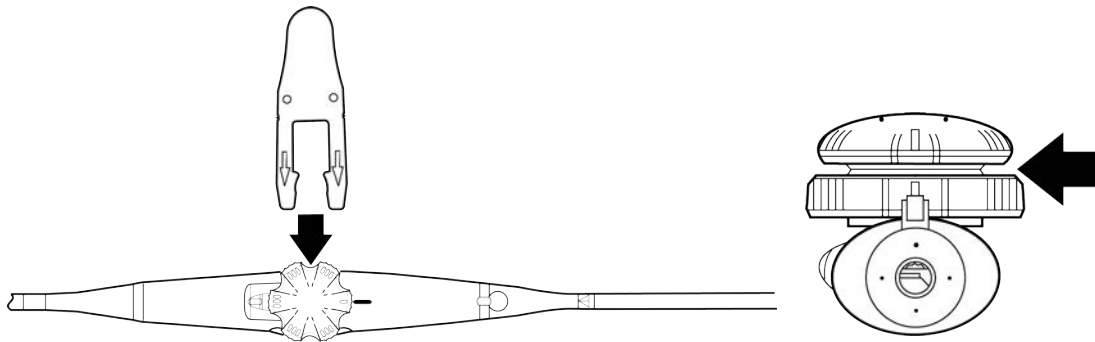

Figure 4-3 Insertion of the fork adapter
- 2 Insert the fork adapter securely in between the flexion control wheels as shown in **Figure 4-3**. You will feel the fork adapter snap into position and may hear a click.